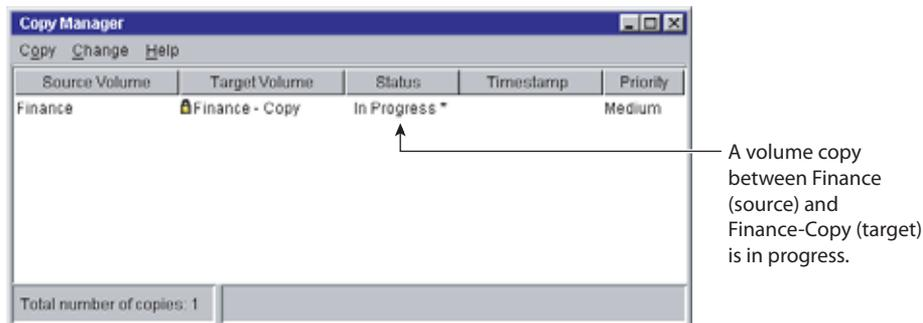

Figure 4-29 Viewing the Volume Copy Status in the Copy Manager
5. Select **Volume >> Copy >> Copy Manager** to open the Copy Manager to view the status of the volume copy, as shown in Figure 4-29.